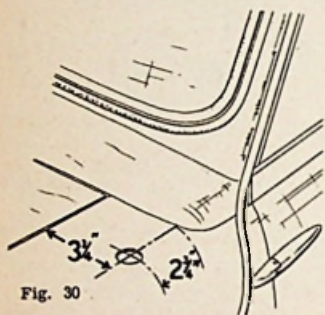

Fig. 30
- (1) Drill a 7/8th inch dia. hole in the passenger's side front wing as shown in Fig. 30.
- (2) Assemble aerial to panel.
- (3) Route the aerial lead through the 1/2" dia. hole in the wing valance (holes are provided in both valances) the hole at the left hand side being adjacent to the windscreen wiper motor into engine compartment using small black grommet provided.
- (4) Route aerial lead through wiring harness clips at top of bulk head and over top of bonnet hinge to centre of bulkhead.